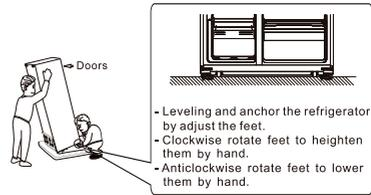

Fig.3
- Try some operations, i.e. Open/close door to confirm the appliance will not move under normal usage/operation. If the appliance moves, adjust the leveling feet again until it is fixed and do not move (See fig.3).
- extended temperate (SN): 'this refrigerating appliance is intended to be used at ambient temperatures ranging from 10 °C to 32 °C (from 50°F to 90°F)';
- temperate (N): 'this refrigerating appliance is intended to be used at ambient temperatures ranging from 16 °C to 32 °C (from 61°F to 90°F)';
- subtropical (ST): 'this refrigerating appliance is intended to be used at ambient temperatures ranging from 16 °C to 38 °C (from 61°F to 100°F)';
- tropical (T): 'this refrigerating appliance is intended to be used at ambient temperatures ranging from 16 °C to 43 °C (from 61°F to 110°F)'